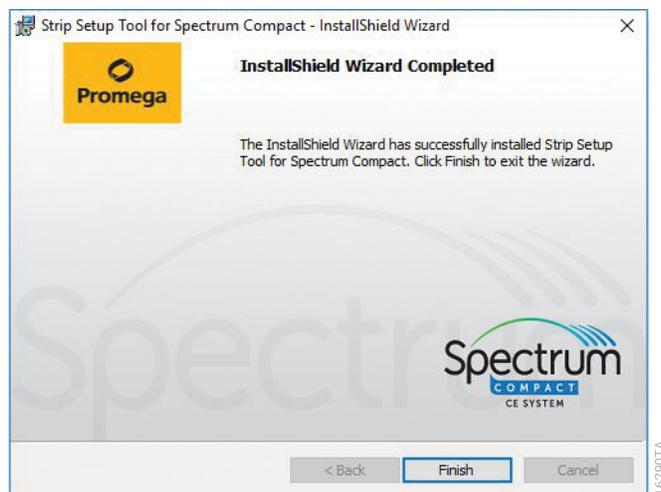

Figure 189. Ready to Install the Program window.
- The InstallShield Wizard Completed window is displayed (Figure 189) upon successful installation of the tool. Select **Finish** to exit out of the InstallShield window.